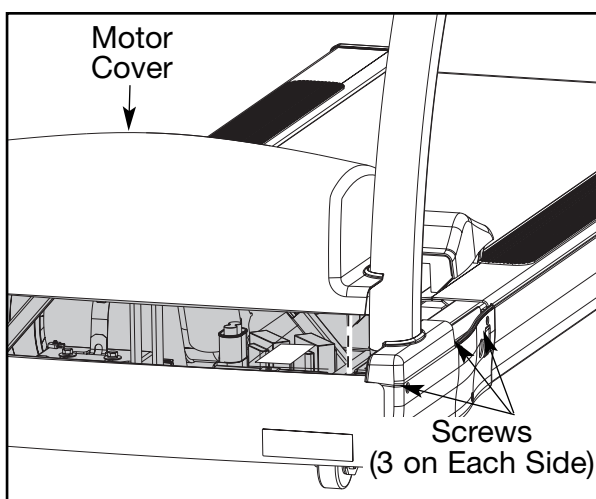

Figure 2
- Enter *Test Mode* by holding down any key on the display while turning the power switch to the on (I) position.
- Turn the main power switch on the left side to the off (O) position.
- Using a Phillips head screwdriver, loosen three screws on each motor cover side (left and right). See Figure 2.
- A. Plug the treadmill back in and turn it to the on (I) position.
- A. Lower the motor cover center into position. See Figure 2.
- E.** Press **Stop** and turn the power switch to the off (O) position.
- A.** Lower the motor cover center into position. See Figure 2.